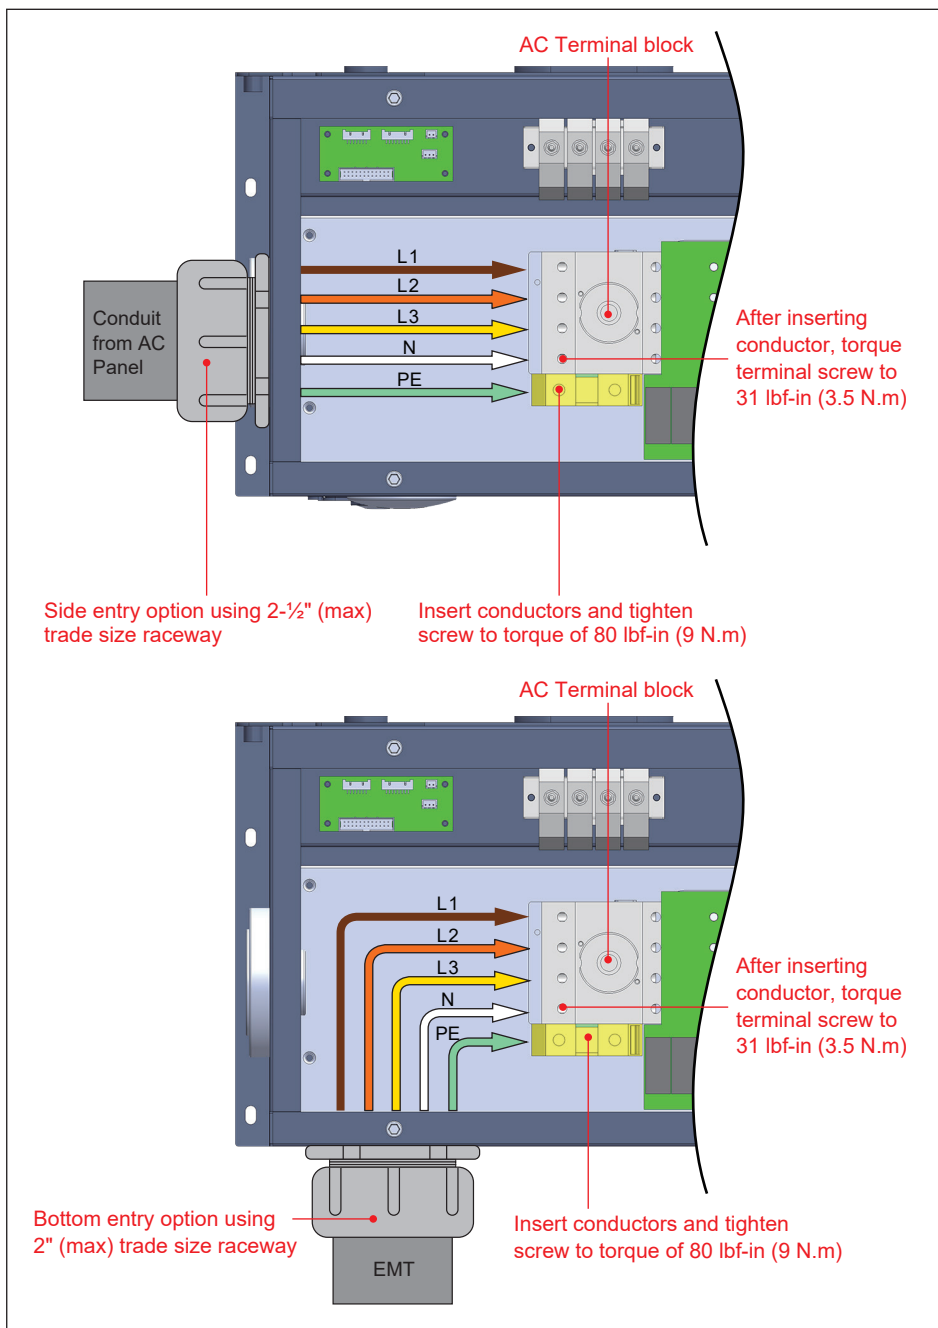

Figure 3-13: Two optional Locations for AC terminal (121 Model)
- There are two options for connecting the AC conduit to the model 121 inverter (see **Figure 3-13**):